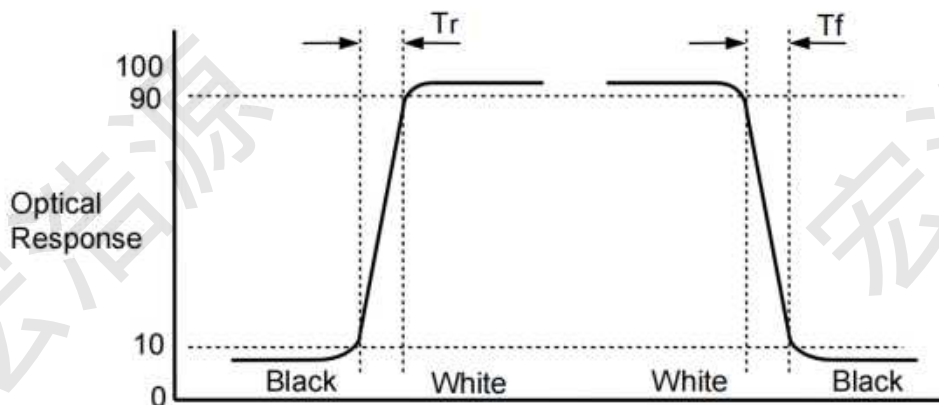

FIG.8 Response Time
2. Response time is the time required for the display to transition from G(0) to G(1023) (Rise Time, Tr_R) and from G(1023) to G(0) (Decay Time, Tr_D). For additional information see the FIG. 8.